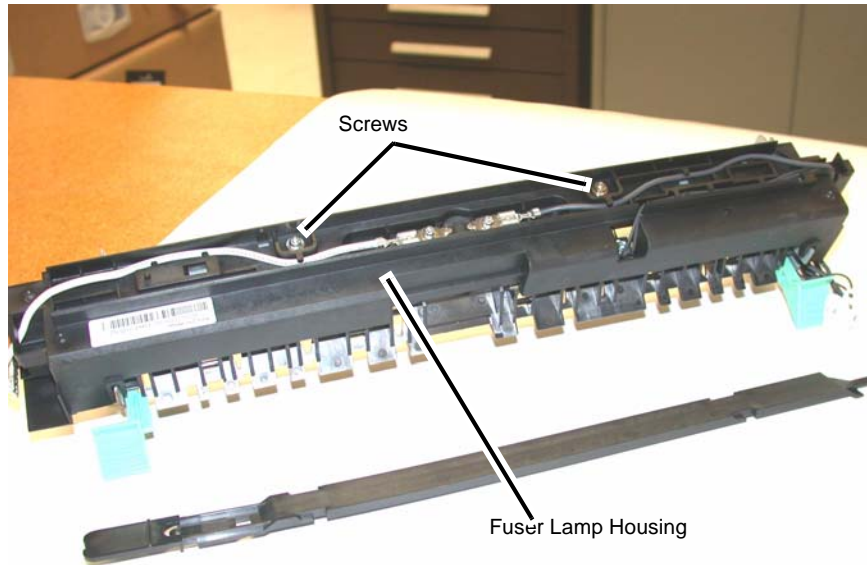

Figure 4 Removing the Fuser Lamp Housing
5. Remove the Fuser Lamp Housing (Figure 4).